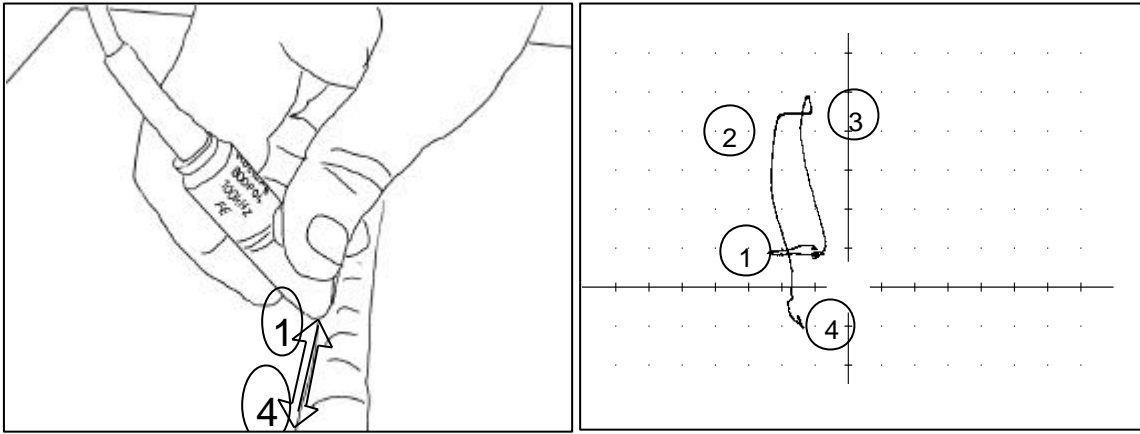

Figure 5 – Single Pass Scan on Heat Affected Zone
5) If a flaw is detected the area should be subject to additional examinations to determine the extent and orientation of the flaw. A longitudinal scan as illustrated in Fig 4 will determine the length of the defect. A single pass scan as shown in Fig 5 will give the flaw 'signature'. The flaw depth can be estimated by comparing the y axis displacement of the spot on the screen when passing over the flaw, with the signal displacement obtained from the slots in the calibration block.
- 1) To calibrate the equipment, balance the probe in air. Next move the probe to the surface of a steel calibration block with metallic coatings of varying thicknesses. The coating thickness is indicated by the signal angle as shown in Fig 5.